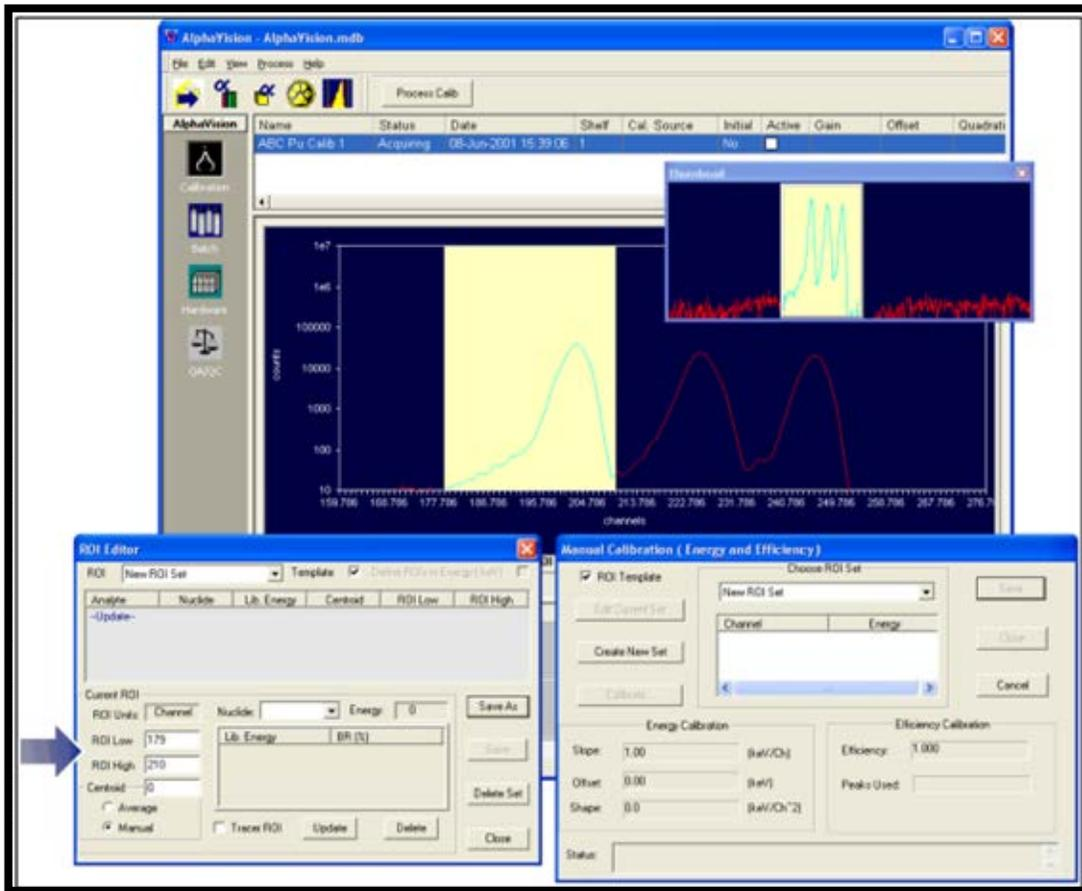

Figure 160. With <Ctrl>+Mouse, Mark the ROI by Dragging the Cursor from Low to High Channel
- d. In the Spectrum Window, locate the lowest-energy peak to be used in this set. In this example that will be  $^{148}\text{Gd}$ . Hold down the **<Ctrl>** key, left-click the low-channel end of the ROI, drag the mouse to the high-channel end, then release the mouse button and the **<Ctrl>** key. The **Low** and **High** channels (in this example, 179 and 210, respectively) will be automatically entered in the ROI Editor (Figure 160).